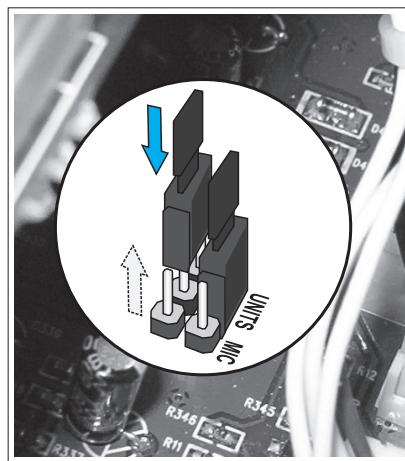

Fig. 4.10.1
- 2) Locate the two jumpers illustrated in Figure 4.10.1 and move them out of **MIC** position (factory default) to **UNITS** position: this will allow the audio signal coming from the microphone stations connected to the **IN UNITS** (22) socket to be diverted to output socket **MIC.3**.
- 3) Connect the **0V** terminal of the amplifier to an external terminal **0V** available on the terminal strip (33) of the equipment.
- 4) Connect the external amplifier **100V** terminal to **V IN** of the terminal strip (13).
- 5) Connect the **MIC.3** socket (22) with a balanced XLR cable with the XLR plug external amplifier.
- 6) Enable via the dip-switches (16) the operation mode with external amplifier (see page 11).